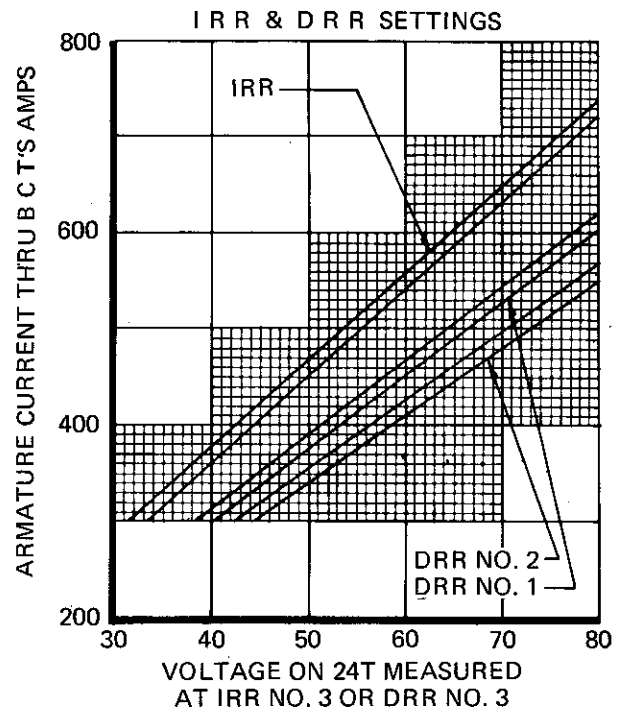

Fig. 4
10. IRR Setting — Obtain 550 amps through BCT's and adjust RH9 to 60 ± 1 volt. Use IRR curve on Fig. 4 as a reference. Return the throttle to idle when completed.
12. DRR No. 1 Setting — Obtain 550 amps through BCT's and adjust RH8 [SD(P)35] or RH13 (all others) to 72 ± 1 volt. Use DRR No. 1 curve on Fig. 4 for reference. Return throttle to idle when completed.
14. DRR No. 2 Setting — Obtain 500 amps through BCT and adjust RH11 [SD(P)35] or RH14 (all others) to 72 ± 1 volt. Use DRR curve No. 2 on Fig. 4 as a reference. Return throttle to idle when completed.